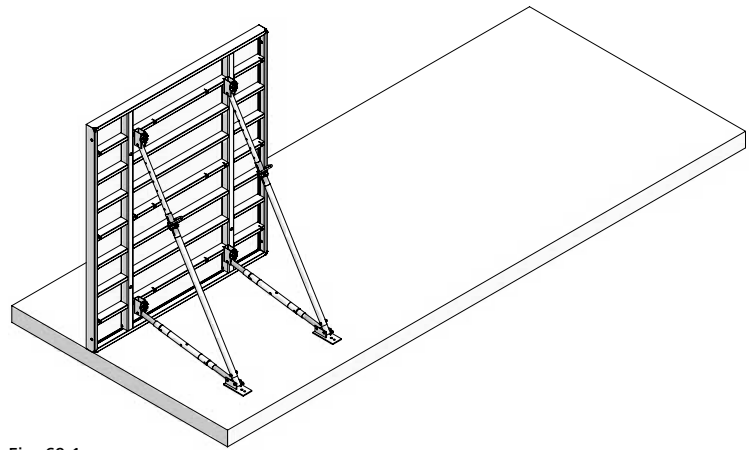

Fig. 69.1
2. Place the first panel and immediately attach it with two brace frames to the ground to prevent it from falling over (Fig. 69.1). Attach the foot plates firmly to the ground, with two soil nails when attached directly to the soil or with two heavy-duty dowels when attached to a concrete foundation.
The panels are usually connected with 2 assembly locks (Fig. 69.1). However, outside corner configurations require 3 assembly locks (see pages ST/AS-22 through 24).